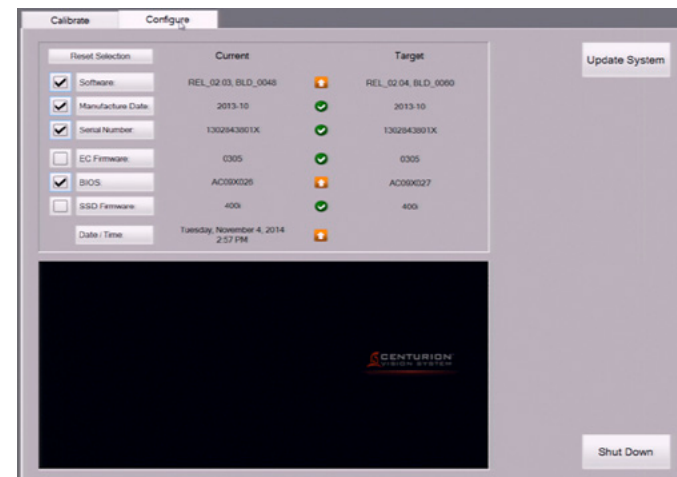

Figure 4-5 The Configuration Installer Screen - Configure Tab
2.1.7 Select the Configure Tab in upper left corner (see Figure 4-5).